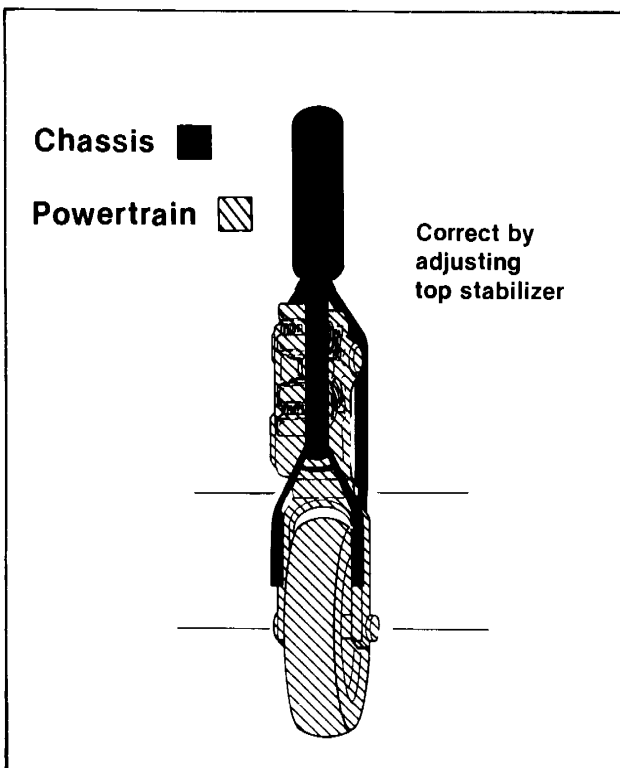

Figure 2-38. Vertically Misaligned
12. See Figure 2-38. Loosen locknuts on top stabilizer. Adjust the top stabilizer so that the bolt removed in step 7 can be reinstalled without pushing the engine to the right or left.